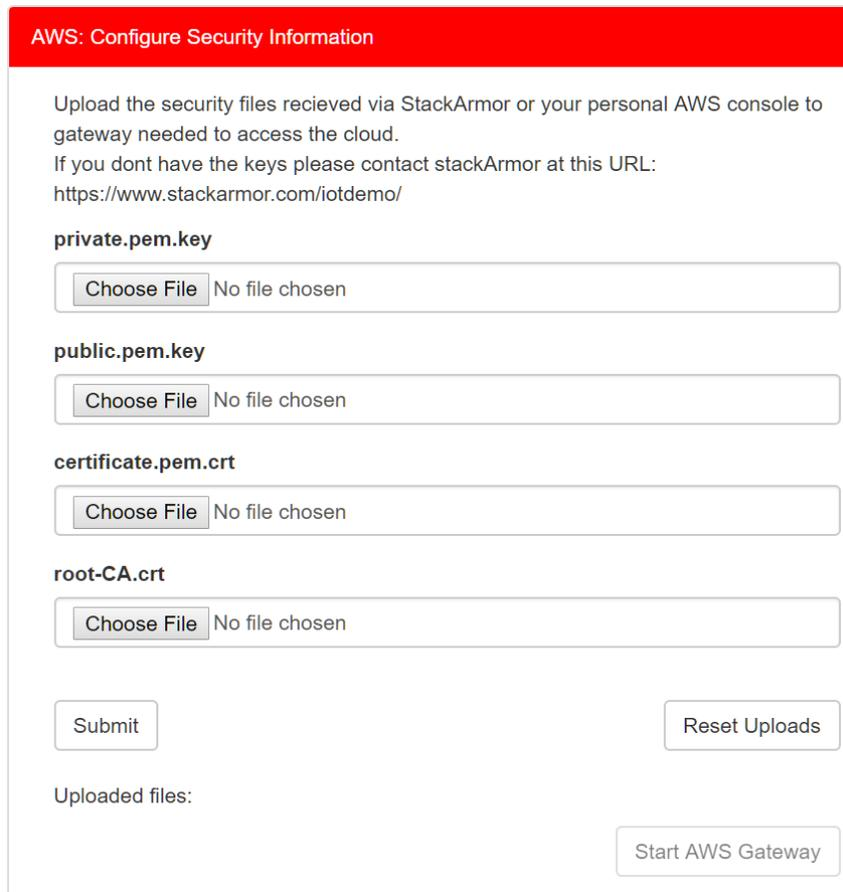

Figure 8. Cloud Service Selections
- After successfully connecting to the Internet, select the desired cloud service (see Figure 8). The **Local Gateway** option may be selected even though it does not require an Internet connection. Amazon Web Services is provided through stackArmor.